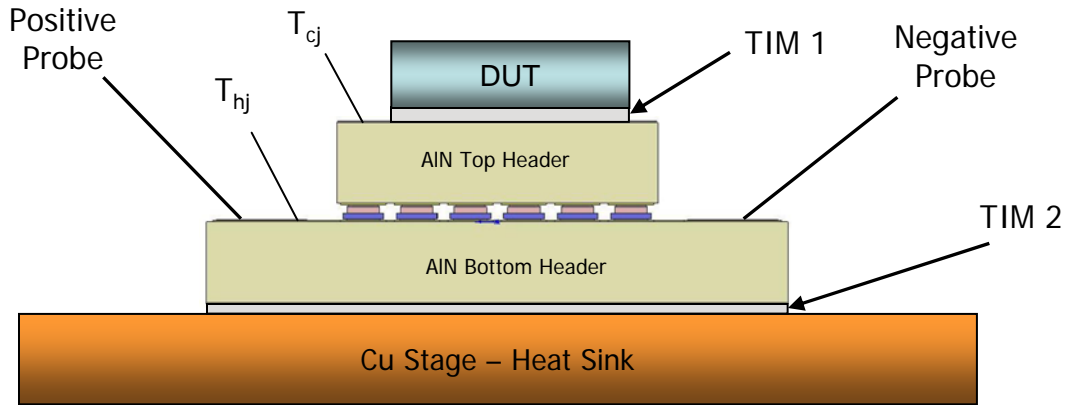

Figure 6 – eTEC Assembly
- The following procedure describes the techniques a customer may use to test the Nextreme eTEC for their application. Figure 6 depicts a typical eTEC assembly.